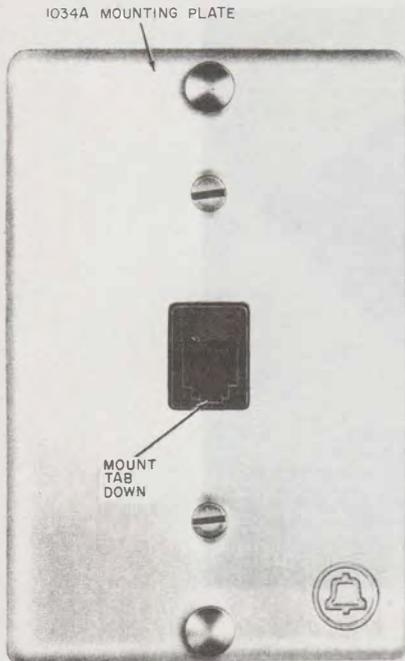
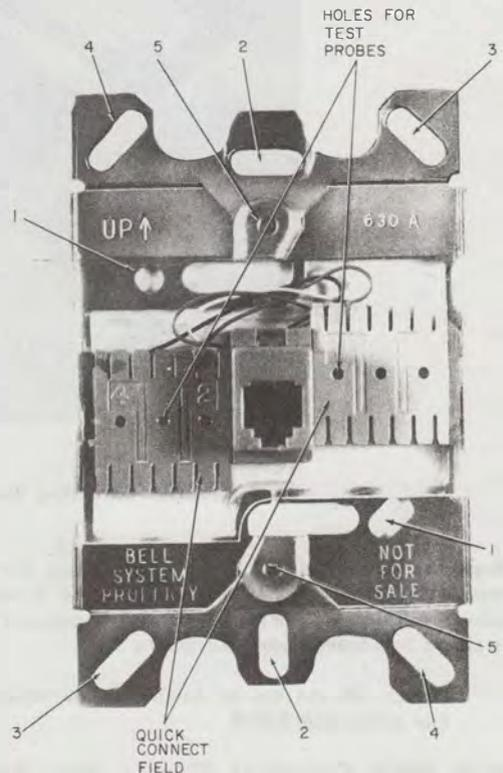

Fig. 7—630A4 Connecting Block (With Mounting Plate)
Fig. 8—630A4 Connecting Block (Current Model Without Mounting Plate)
- Block, Connecting, 630A4 (Fig. 7, 8, and 9)
2.11 The **630A4** connecting block (Fig. 7) is a plug-in wall set mounting and will also accept a modular type mounting cord. It consists of a connecting block (Fig. 8) and 1034A mounting plate. Two 3/16-inch 800413577 (P-41357) cover mounting screws, two 5/16-inch 840705008, and two 1-1/8 inch 841065529 flathead machine screws are included in a fastener package. The 630A4 connecting block is now available as a replacement for the 630A6 and should be ordered accordingly.
3.11 **630A4 Connecting Block:** This block (Fig. 7) may be flush mounted on a 63-type bracket or electrical type outlet box or surface mounted on a wall. In all cases, the block should
**4.01** The 630A4 may be used with exposed or concealed station wire. Each quick-connect terminal (total of four) provides three station wire terminations per lead. One termination is required for the jack conductor. An access for a test point is also provided (Fig. 8).
lie flat against the wall with connector springs oriented to the top and tab to the bottom (Fig. 7).
(a) A fastener package is provided with the 630A4 connecting block consisting of two 3/16-inch 800413577 (P-41357) cover mounting screws, two 5/16-inch 840705008, and two 1-1/8 inch 841065529 flathead machine screws. Depending on mounting arrangement, select proper fasteners from Table B and mount connecting block using holes designated in Fig. 8. The connecting block should be straight before tightening screws.
(4) Attach mounting plate (Fig. 7) using the two 3/16-inch 800413577 (P-41357) cover mounting screws or two 5/16-inch 840705008 flathead machine screws from the fastener package.
(5) Remove the protective mylar cover from the stainless steel plate.
(6) Check for continuity on each lead by inserting 934A tool or 523A4 plug and connecting test set.
**Note:** Use of heavy gauge (greater than No. 22 AWG), such as JKT station wire or heavily insulated GS-type station (MD) wire, may cause difficulty in installation and/or damage to the connecting block. Such wire should be used only where it is impossible to provide appropriate types (D, G, or H station wire or E inside wire). Do not strip insulation from conductors.